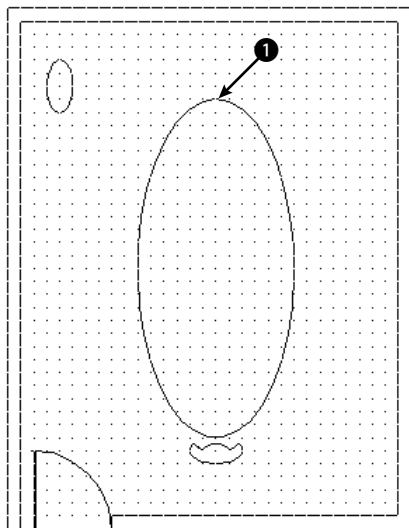

Figure 9-8: The conference room.
2. Save the file as ab09-05.dwg in your AutoCAD Bible folder. This drawing shows a conference room, as shown in Figure 9-8.
9. At the Specify base point or displacement: prompt, locate the Center object snap to pick the center of the arc that makes up the back of the chair. (Press Tab to cycle through the object snaps if necessary or move the cursor over the arc itself, or its center.) At the Specify second point of displacement or <use first point as displacement>: prompt, pick point ❶ in Figure 9-8. This point doesn't have to be exact. Press Enter to end the command.